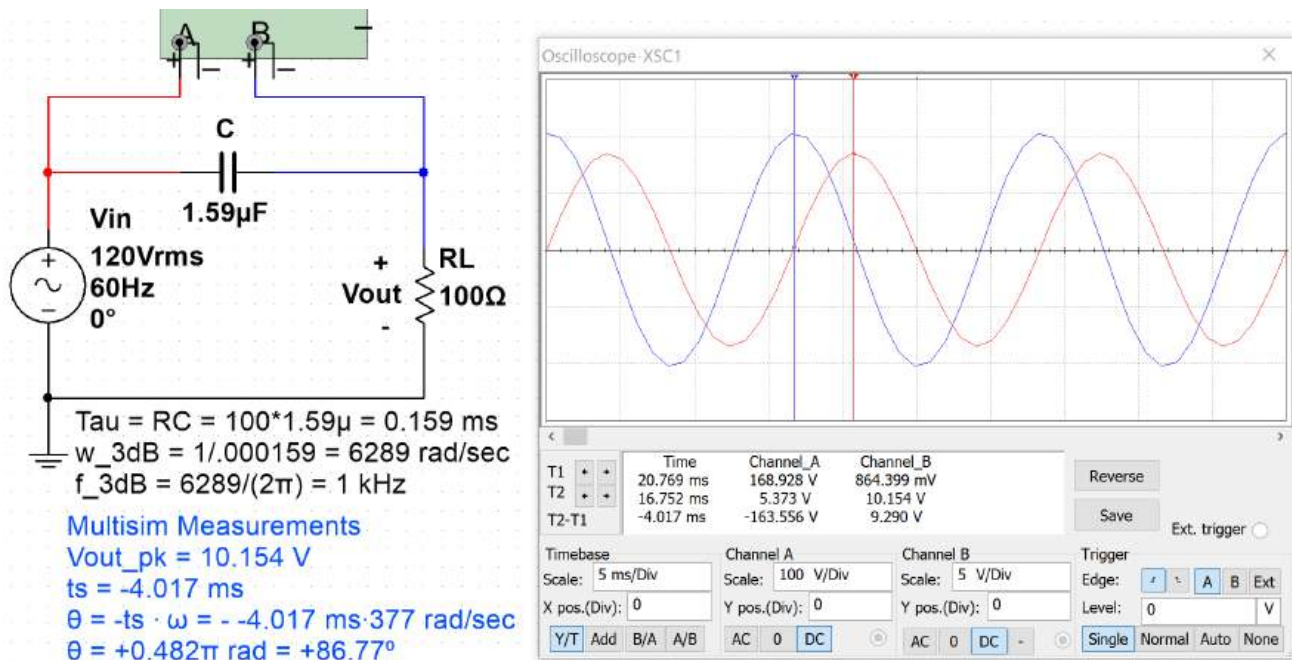

Figure 4.10: Multisim oscilloscope verification of Bode plot and calculated results of Example 4.2.
Using the Bode plot to determine the output signal is much easier than solving the problem algebraically. The following steps show how to solve this problem and the values are verified in the Multisim scope plot in Figure 4.10. The problem solving technique shown below is the same process that was performed in Section 3.2 - Series RLC Circuits. The **Blue Font** shows the Multisim measurements. Notice that they closely match the calculations.
- $Z_{Total} = R_L - jX_C = 100 - j1668.3$ $Z_{Total} = 1671.3\angle-86.57^\circ \Omega$ (ICE) (Notice: V_{RL} leads V_{in} in Figure 4.10)